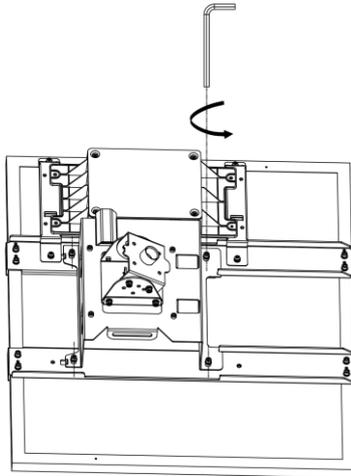

Figure 3-3 Loosen Screws on Panel
- 1). Loosen the four screws connecting the shift panel and the panel holder, and disassemble the shift panel, as shown in Figure 3-3.